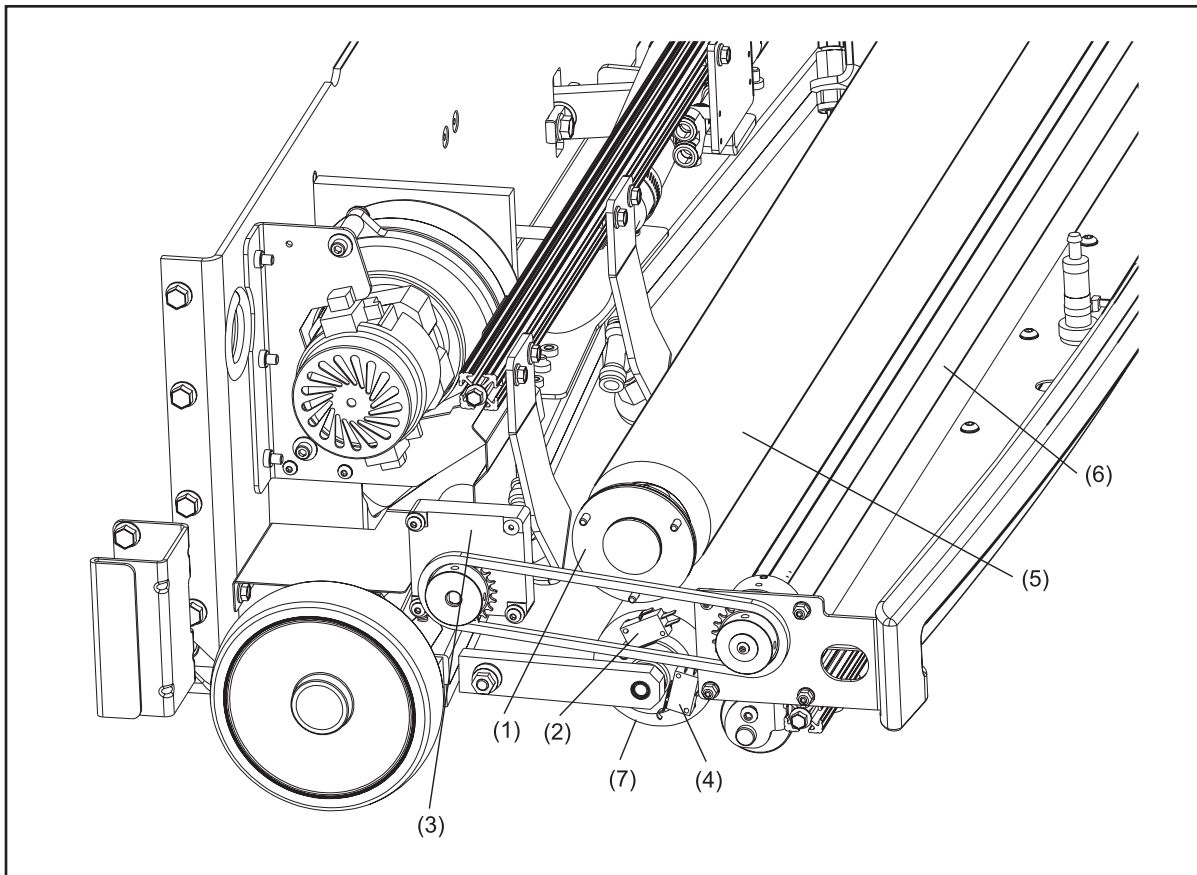

Figure 7-1. Duster Cloth System
1. The duster cloth removes dust and dirt from the lane surface. Refer to Figure 7-1.